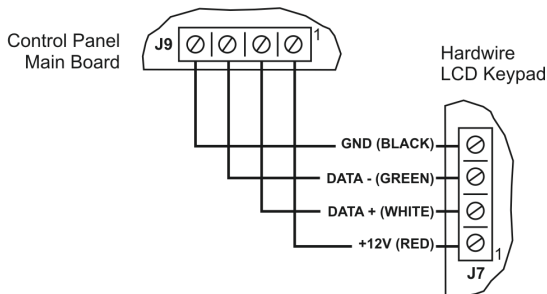

Figure 2.4: Connections for Hardwire LCD Keypad
4. Connect the terminal block on the keypad to the appropriate terminal block on the control system's main board as shown in Figure 2.4.